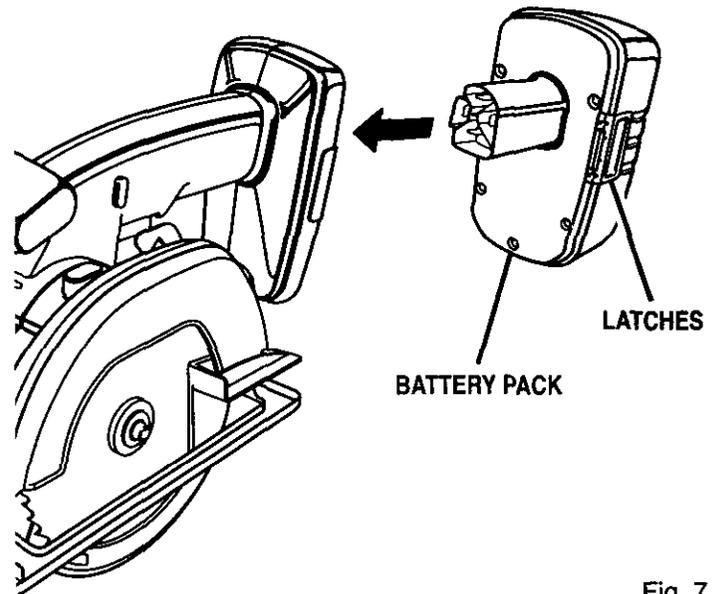

Fig. 7
See Figure 7.
- Place battery pack in your saw. Align raised rib on battery pack with groove inside saw, then slide battery pack in saw as shown in figure 7.